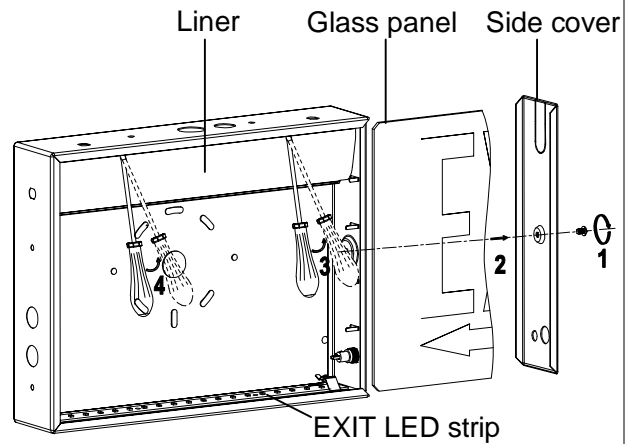

Fig 2
- Step 2. Disassemble glass panel by removing the screw holding side cover, use flat head screwdriver to open the liner. See Fig 2.
- Step 2. Disassemble glass panel by removing the screw holding the side cover, use flat head screwdriver to open the liner. See Fig 2.
- [The following steps required when converting to double (2) face.]